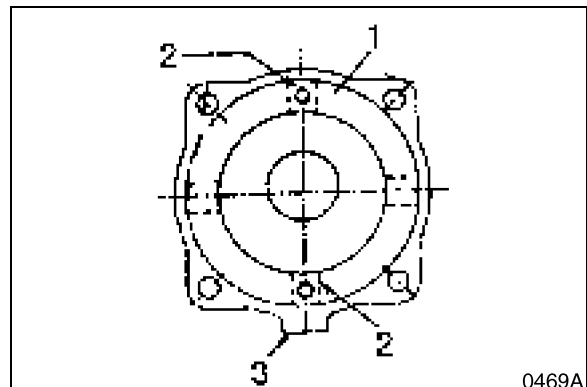

Figure 43
14. Position brake piston (1, Figure 43) in casing. The diagram shows position of four piston grooves (2) in relation to valve-connected side (3), and two 8 mm bolts which should be tightened in an even, progressive rotation.